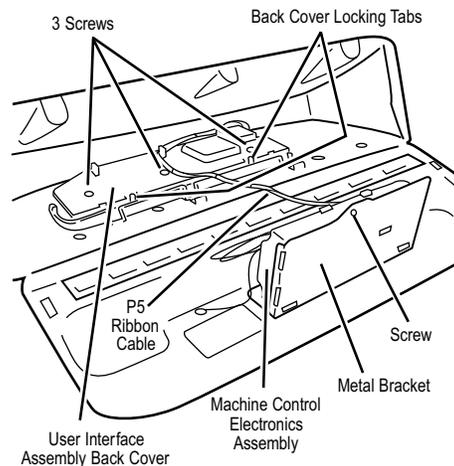

Figure 14. Locate the electronic assemblies.
There are two electronic assemblies; the user interface electronics, and the machine control electronics. See Figures 14 and 15.
- Remove the one screw holding the machine control assembly to the metal bracket. See Figure 14.